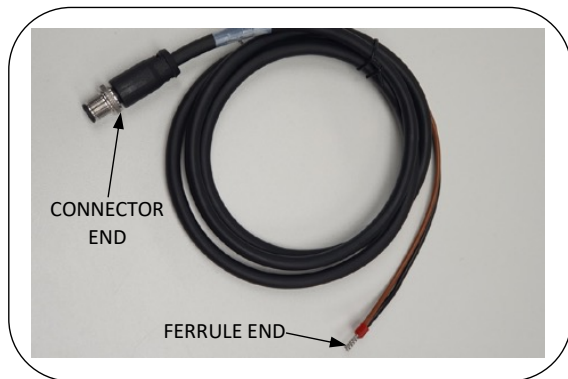

Fig. 1 - Solar Light Cable
1. Connect the ferrule end of the solar light cable (obtained from solar assembly kit) to the splicing connectors attached to the luminaire. The splicing connectors are accessible from the underside opening of the luminaire (refer to Fig. 1 and 2). Connect the ferrule end of the solar light cable to the splicing connectors according to the wiring diagram.